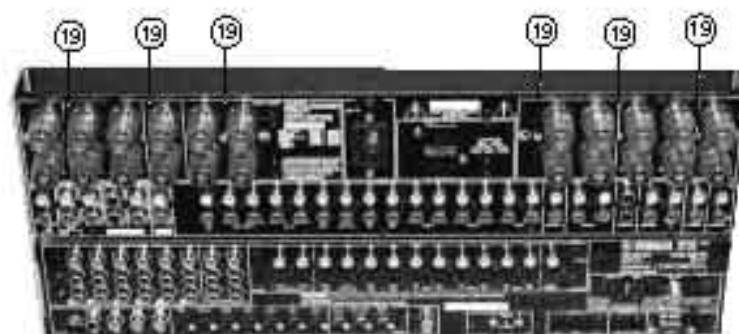
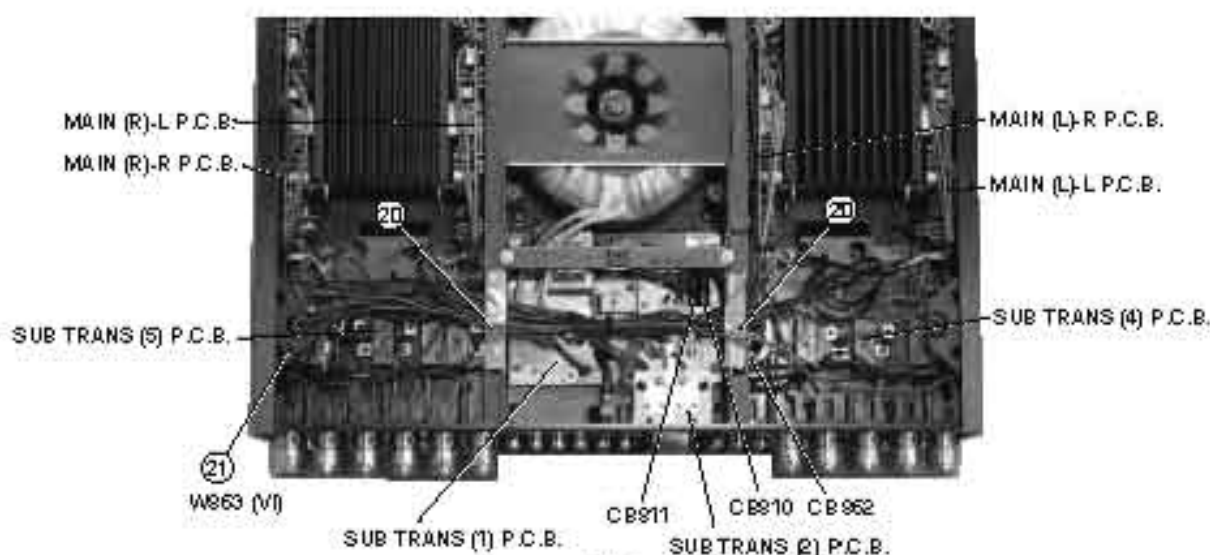

Fig. 8
Fig. 9
7. Removal of SUBTRANS (4) P.C.B. & SUBTRANS (5) P.C.B.
- Remove 6 screws (19). (Fig. 8)
- Remove 2 screws (20) and 1 screw (21). (Fig. 9)
- Remove connectors CB862 (4P), CB810 (13P), CB811 (9P) and CB20 (13P). (Fig. 9, 10)
- Remove the SUBTRANS (4) P.C.B. and the SUBTRANS (5) P.C.B. (Fig. 9)
7. SUBTRANS (4) & SUBTRANS (5) P.C.B.の外し方
- ⑬のネジ6本を外します。(Fig. 8)
- ⑳のネジ2本と㉑のネジ1本を外します。(Fig. 9)
- コネクタCB862 (4P)、CB810 (13P)、CB811 (9P)、CB20 (13P)を外します。(Fig. 9, 10)
- SUB TRANS (4) & SUB TRANS (5) P.C.B.を取り外します。(Fig. 9)